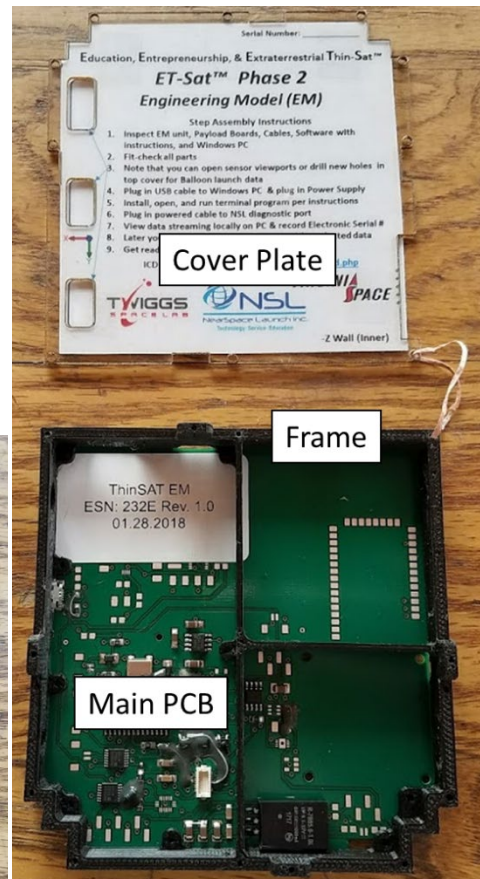

Figure 1 Engineering Model (EM) ThinSat, with Main PCB, Frame, and attached Cover Plate.
- 1.1 ThinSat – Engineering Model (EM) Unit (Figure 1)